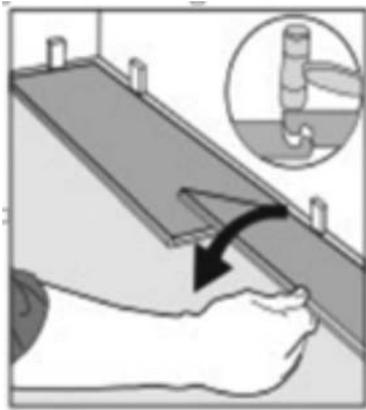

Figure: 3
4. Use spacers along all sides that butt up against walls to maintain 6.0 mm expansion gap. (See figure 3).